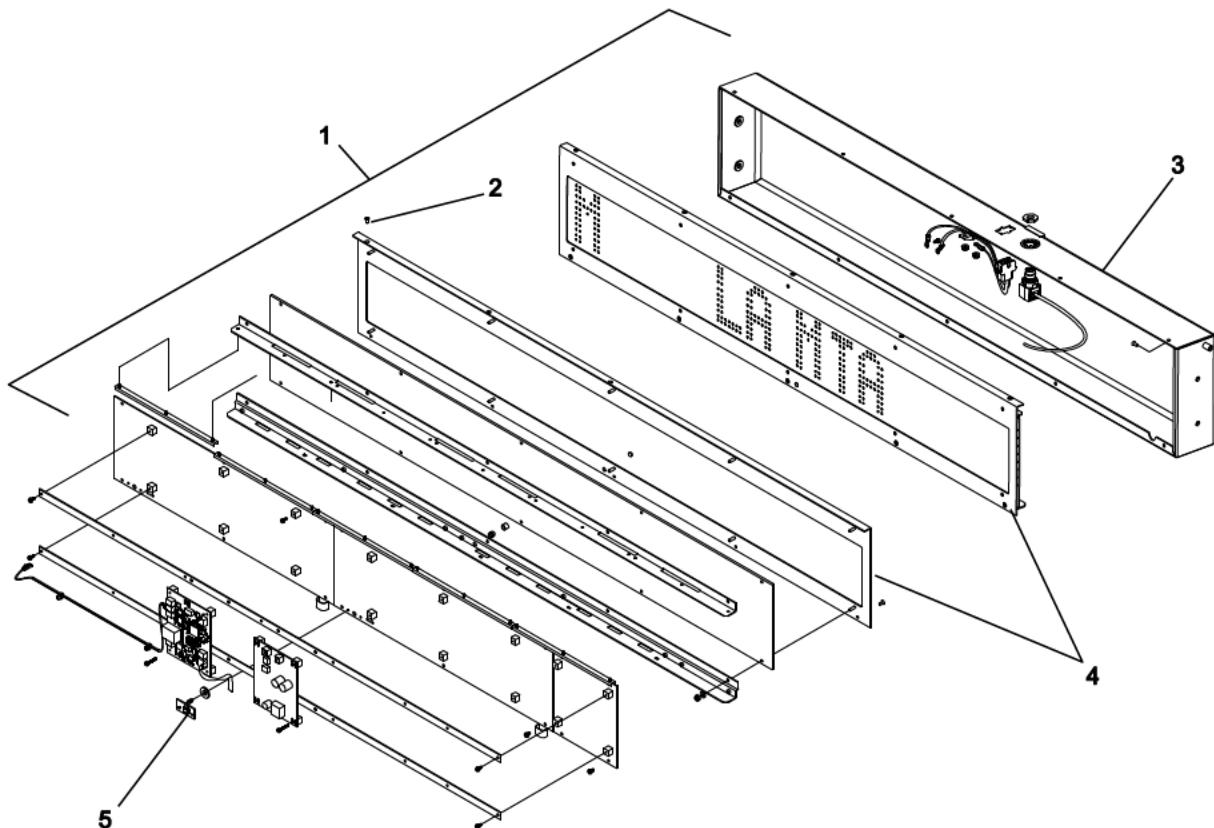

Figure 8-25: Replace Side Destination Light Sensor PCB
1. Remove side destination sign assembly (1, Figure 8-25) from its mounted location.
2. Remove ten 6-32 x 5/16 FH Phillips screws (2) that secure the housing assembly (3) to front panel assembly (4).
3. Carefully separate the housing assembly (3) from front panel assembly (4) to access electrical wiring and harnesses.
4. Tag and disconnect electrical wiring connectors from the light sensor PCB (5).
5. Remove light sensor PCB (5).
6. Install replacement light sensor PCB (5).
7. Connect electrical wiring connectors to the light sensor PCB (5).
8. Install the housing assembly (3) to the front panel assembly (4) using ten 6-32 x 5/16 FH Phillips screws (2).